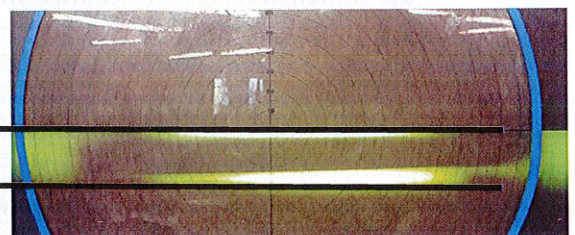

Figure 12. Component shown on the viewer and measuring points
6.2.8. Helix. Place the component on the shadow graph table and position it between two plates as shown in figure 11. On the viewer measure between the two plates to get the helix measurement. Figure 12. You may need to re-focus to get a definite line on each plate.